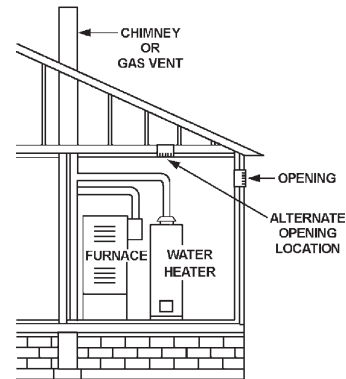

FIGURE 8B.
5. Alternatively a single permanent opening may be used when communicating directly with the outdoors, or with spaces that freely communicate with the outdoors. The opening shall have a minimum free area of 1 square inch per 3,000 BTU per hour (8.3 cm²/kW) of total input rating of all equipment in the enclosure. See Figure 8B.